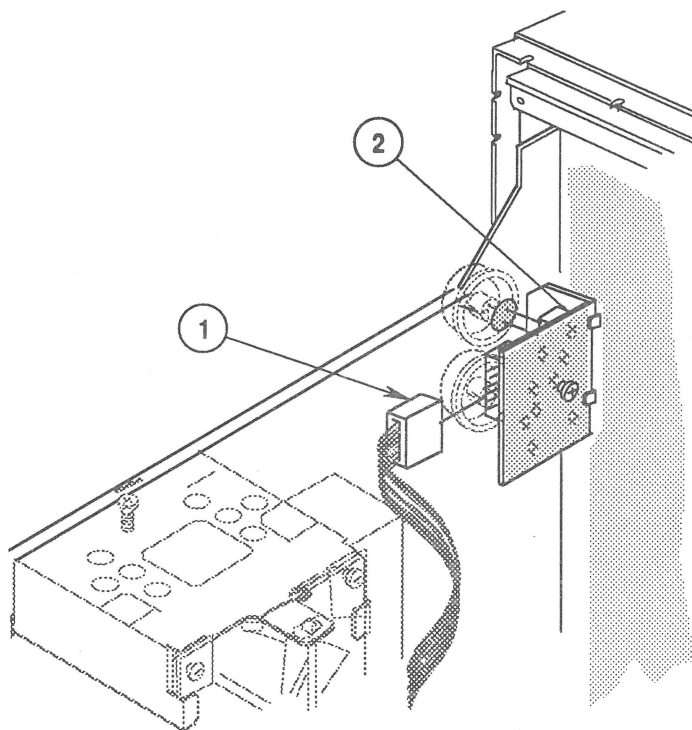

FIGURE 24
5. Disconnect the **C** connector (Figure 24, #1) from the contrast brightness board (Figure 24, #2).
1. Reconnect the **C** connector (Figure 24, #1) to the contrast brightness board (Figure 24, #2).